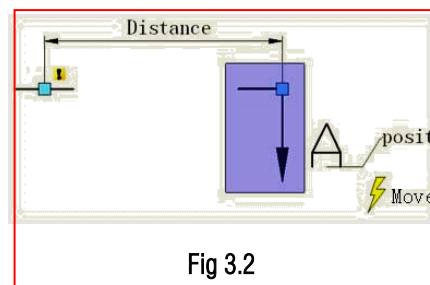

Fig 3.2
2. Select objects to stretch and the “position” Point Parameter together, which can accomplish that the text and section symbol are moving together (Fig. 3.2).